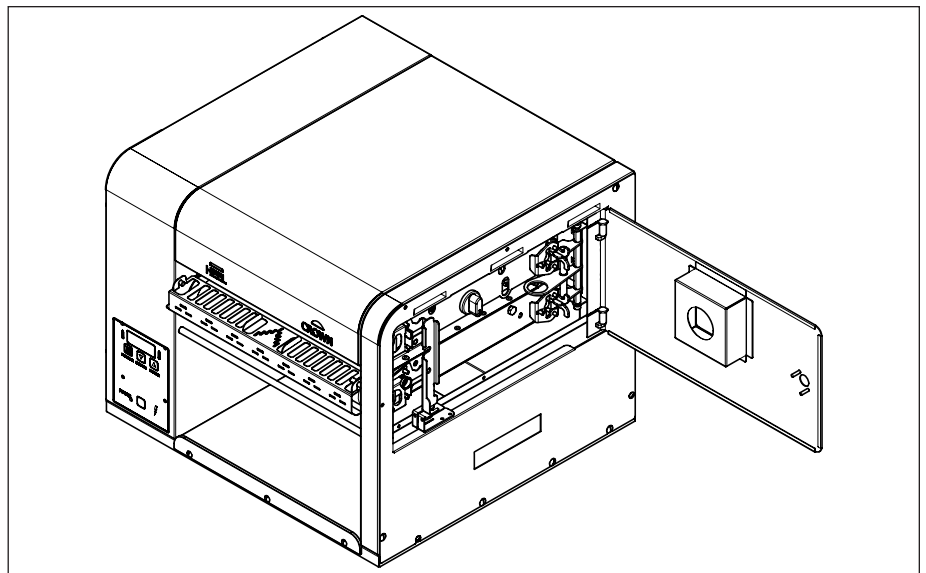

Figure 1. Gold Standard Toaster - 2H
3. Open the side door (Figure 1) and remove all of the plastic ties securing the toaster mechanism.
2. Put on heat resistant gloves. Remove the Top Cover, Feeder, and Chute (Figure 1).
4. Reinstall all accessories (Figure 1).